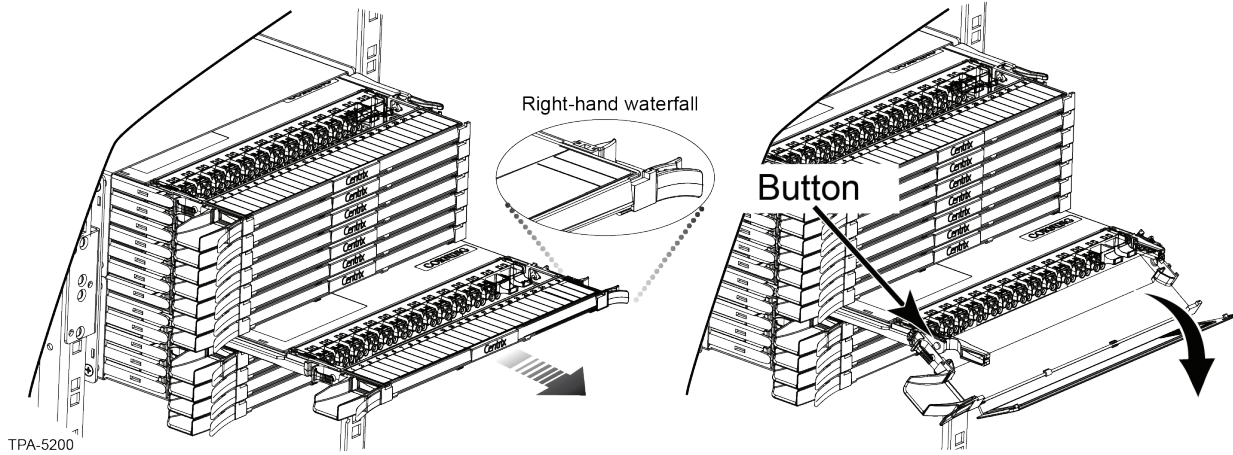

Figure 13
Step 3: Open module drop handle to access the MTP adapters (Figure 13).